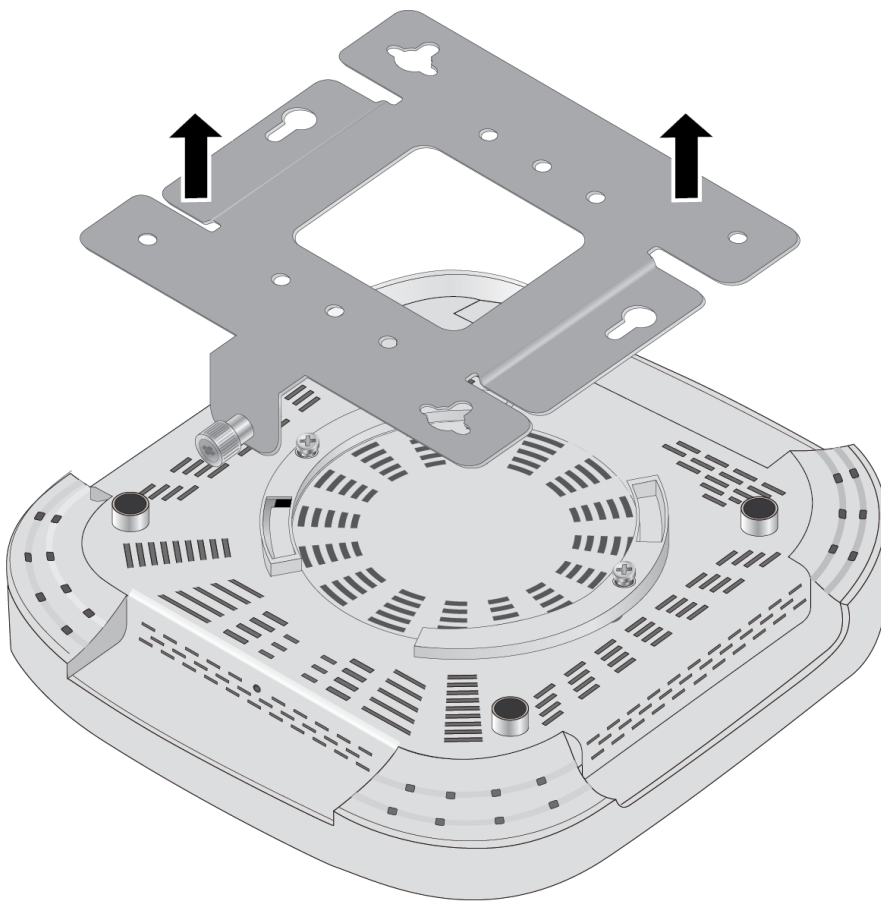

Figure 14. Removing the Mounting Bracket from the Access Point
4. Slide the mounting bracket forward and temporarily remove it from the access point. Refer to Figure 14.